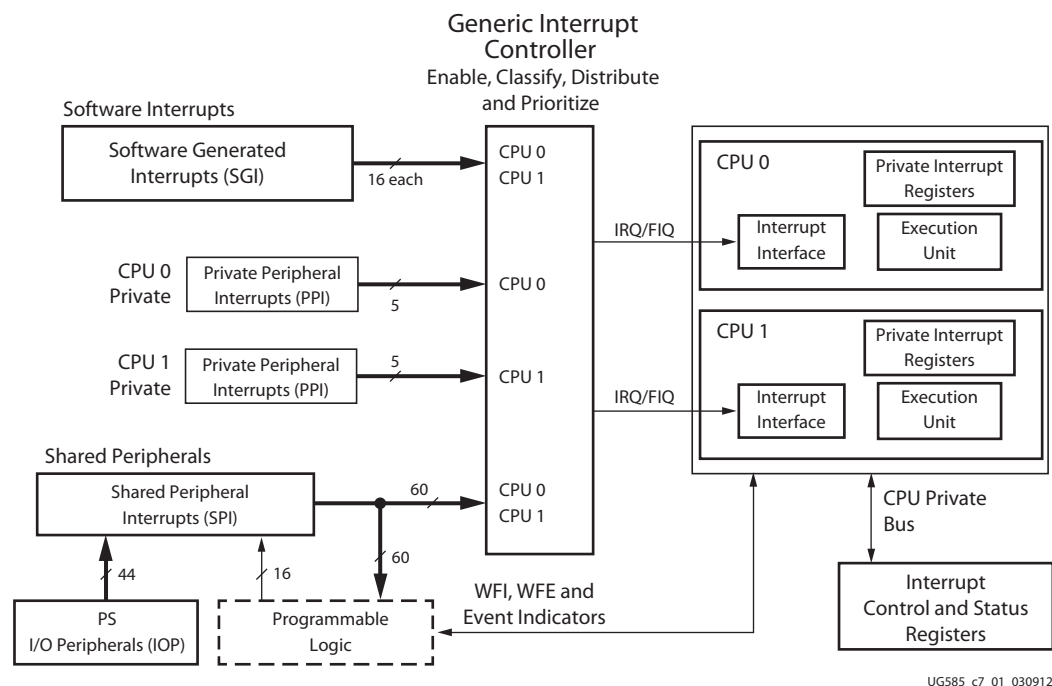

Figure 7-1: System-Level Block Diagram
This chapter describes the system-level interrupt environment and the functions of the interrupt controller (see Figure 7-1). The PS is based on ARM architecture, utilizing two Cortex-A9 processors (CPUs) and the GIC pl390 interrupt controller. The interrupt structure is closely associated with the CPUs and accepts interrupts from the I/O peripherals (IOP) and the programmable logic (PL). This chapter includes these key topics: